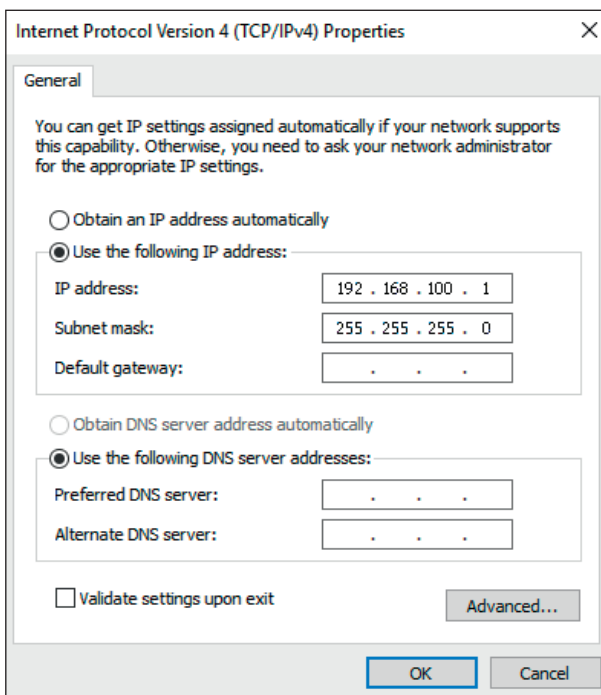

Fig. 5-10: **Internet Protocol Version 4 (TCP/IPv4) Properties** dialog
- ⇒ The **Internet Protocol, Version 4 (TCP/IPv4) Properties** opens (Fig. 5-10).